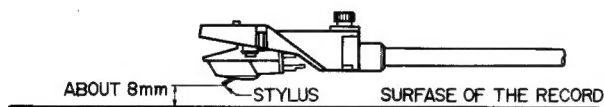
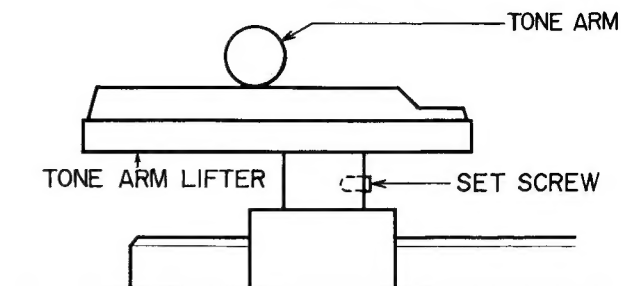

Fig. 2
Fig. 3
- 2) To bring the tip of the stylus to about 8 mm from the surface of the record (Fig. 2), adjust the height of the Tone Arm Lifter and tighten the set screw. (See Fig. 3)